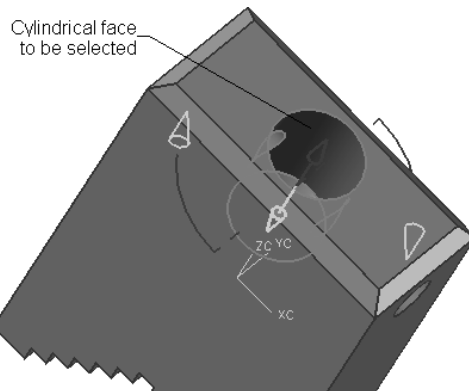

**Figure 8-47** The assembly after assembling the Screw
13. Choose the **Apply** button from the **Mating Conditions** dialog box. The assembly, after assembling the Screw, is shown in Figure 8-47.